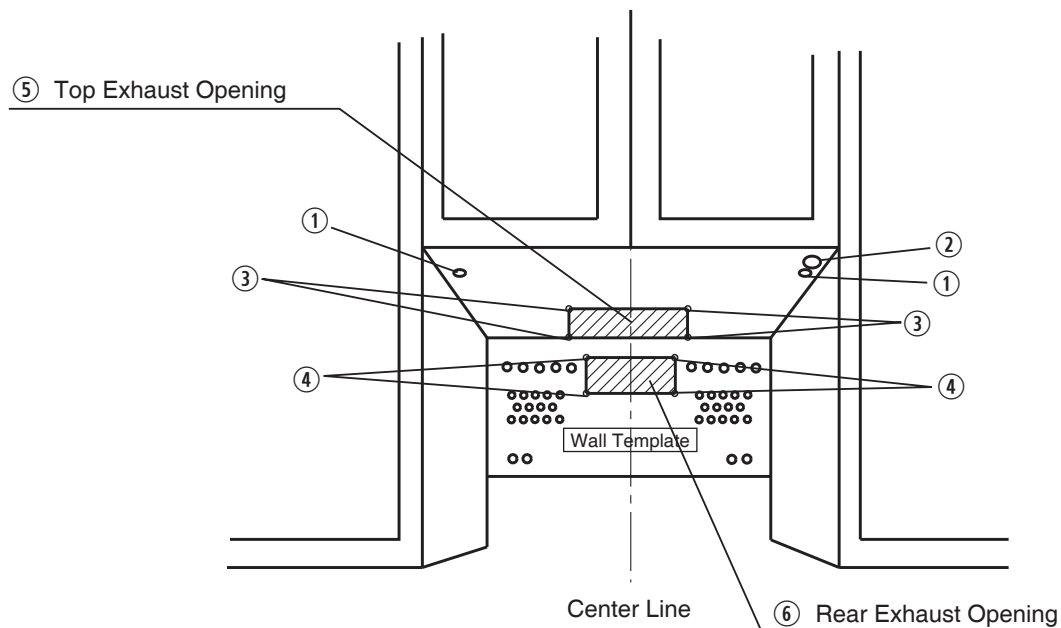

Fig. 2-1
- 2-1. Draw a vertical center line on the wall and a center line under the cabinet. (Fig. 2-1)
- 3-1 Drill 3 pilot holes at the center point (No.① and No.② in Fig. 2-1)
If Top Exhaust application is chosen, you will need 4 more pilot holes. (No.③ in Fig. 2-1)
If Rear Exhaust application is chosen, you will need 4 more pilot holes. (No.④ in Fig. 2-1)
- 3-3 Drill two $\frac{1}{2}$ " holes in the No.① pilot holes. Drill a $\frac{3}{16}$ " hole in the No.② pilot hole for AC cord.
- 3-4 If Top Exhaust application is chosen, you will need to cut the Top Exhaust opening. (No.⑤ in Fig. 2-1)
If Rear Exhaust application is chosen, you will need to cut the Rear Exhaust opening. (No.⑥ in Fig. 2-1)
Note: If Rear Exhaust is chosen, the product needs a Rear Wall Exhaust cutout opening for the Rear Wall duct and the Exhaust adaptor must be installed on the bracket (hardware item ⑥) with two screws. (hardware item ⑤) (Fig. 2-1).
4. Pass AC cord through kitchen cabinet hole. (No. ② in Fig. 2-1)